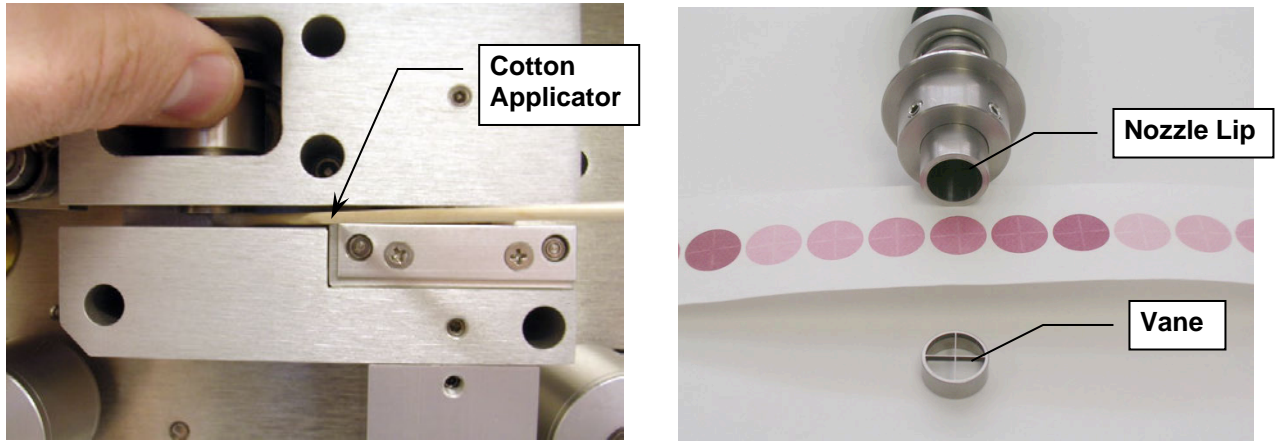

Figure 6-7 Nozzle and Vane Cleaning, and Disassembled View
3. Press the NOZZLE DOWN button to lower the nozzle. Lift the nozzle with fingertip pressure and insert another wet cotton applicator between the nozzle and the vane. Let the nozzle press down onto the swab with its spring pressure. Using thumbs or fingertips, rotate the nozzle while keeping the swab in place (see Figure 6-7). A few rotations should clean the nozzle lip.